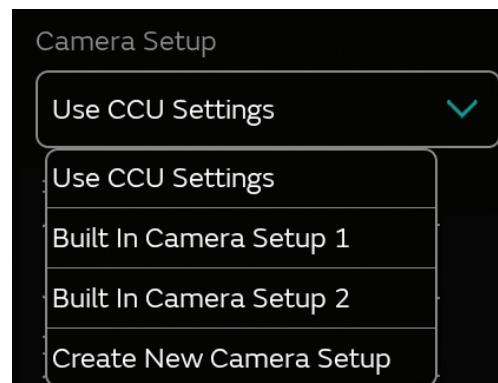

Figure 21. Select Default Camera Setup Setting
3. Tap the **Select Default Setting** and then select the new local Camera Setup (Figure 21).